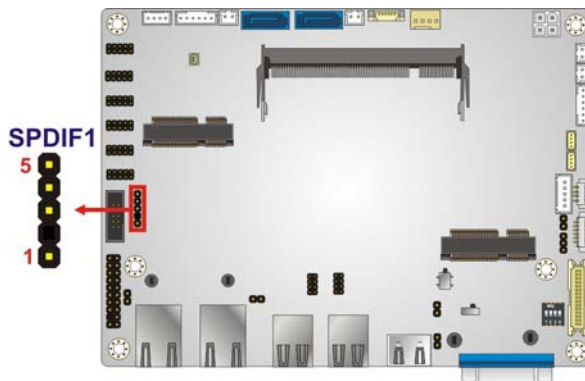

Figure 3-25: SPDIF Connector Location
- CN Location: See **Figure 3-25**